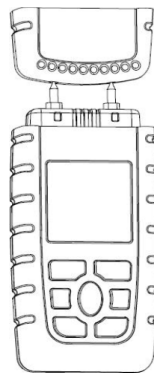

Figure2-7-1
- The meter should display “Material 1” after turning on. If not, you should press “Material” button to choose materials 1. Use the meter to test the cover’s test point as Figure 2-7-1. If moisture reading between 34.5%~35.5%. The meter’s moisture function is good, otherwise it is NG. Please contact local distributors in time.